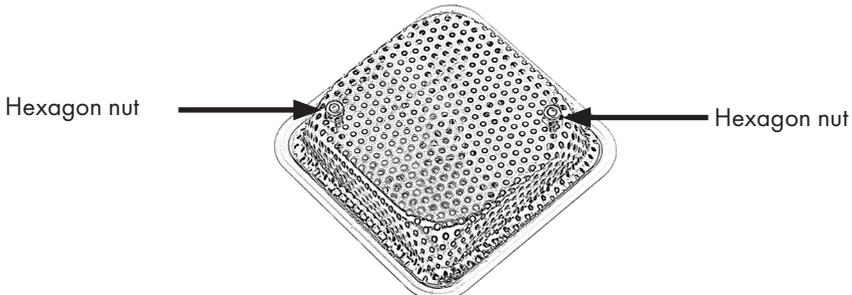

Figure 2
1. First unscrew the two nuts on the strainer and remove the strainer. Then replace the desired strainer in the same way and tighten the nuts. (Fig. 2)